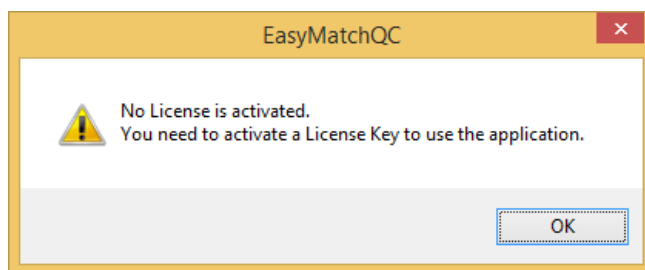

Figure 5. No License Warning
2. A warning message to activate the license will be displayed as shown in Figure 5.
- a. From the **Choose an Option** page (Figure 5), select **Key ID**.
- b. From the **Choose an Option** page (Figure 5), select **Key File (.skl)**.